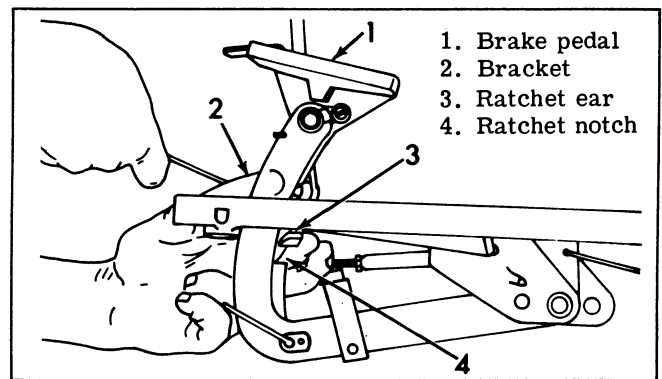

Figure 2-59. Adjusting Mechanical Brake Release
#### MECHANICAL BRAKE LOCKING RATCHET (Figure 2-59)
See Figure 2-59. Loosen, but do not remove pedal bracket-to-floor panel nuts with wrench. Depress brake pedal and tilt foot pedal (1) forward. Shift bracket (2) so that ear (3) engages one of notches (4). Fully tighten nuts while holding in this position.